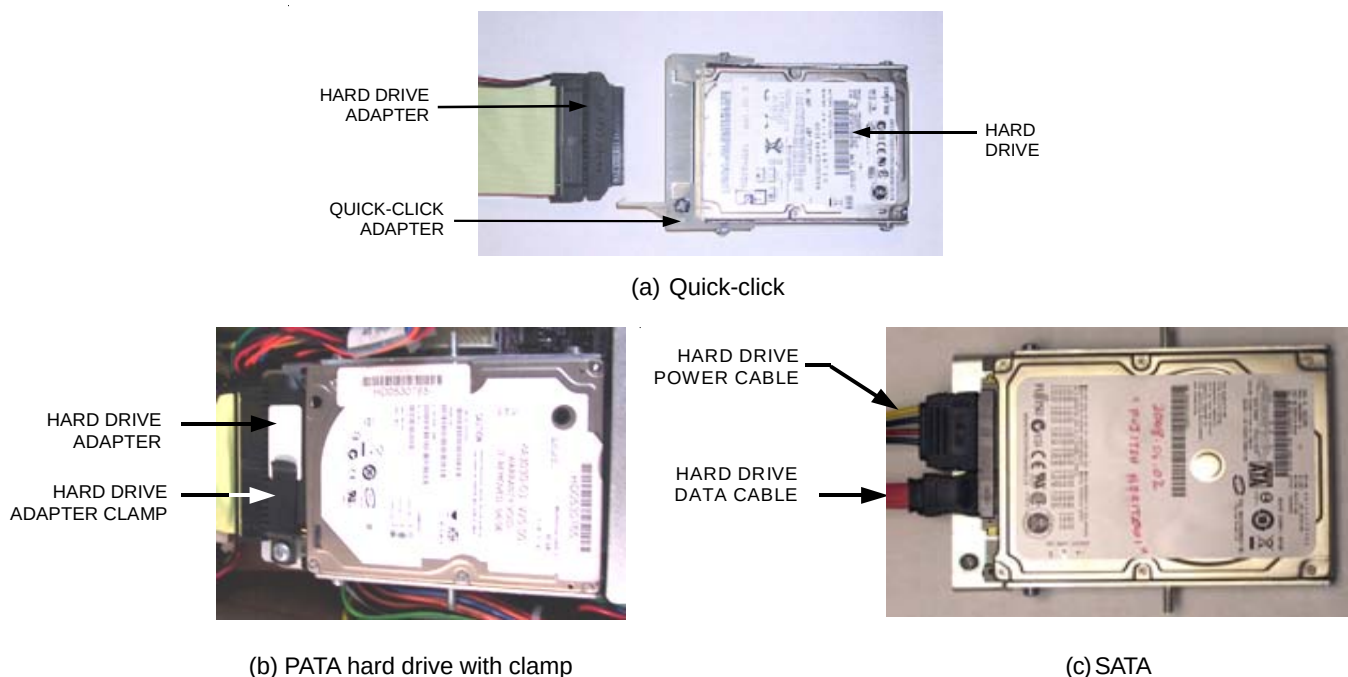

FIGURE 1 - HARD DRIVES
5. Tighten the screw securing the bottom of the door. See Figure 2. Turn the wing on the draw latch clockwise to engage the latch (Figure 1).
To determine whether your hard drive is quick-click or non-quick-click, look for a light gray adapter between the hard drive adapter and the hard drive mounting bracket. See Figure 1. If there is such an adapter, then you have a quick-click hard drive; if not, then your hard drive is non-quick-click. The PATA hard drive with a clamp will simply have a clamp as shown in Figure 1. The SATA hard drive is also shown in Figure 1. The SATA is easily identifiable by the lack of a hard drive ribbon cable and adapter.